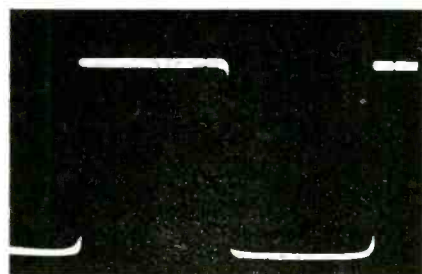

Fig. 3—Example of variation in trace thickness.
A. This situation is shown in Fig. 3. It is due to the presence of spurious voltages in the reproduced square wave, such as noise voltages, combined with non-linear operation of